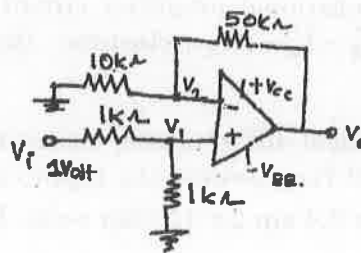

Fig. 1
3. Determine the output voltage  $V_o$  for the non-inverting amplifier circuit shown in Fig.1.